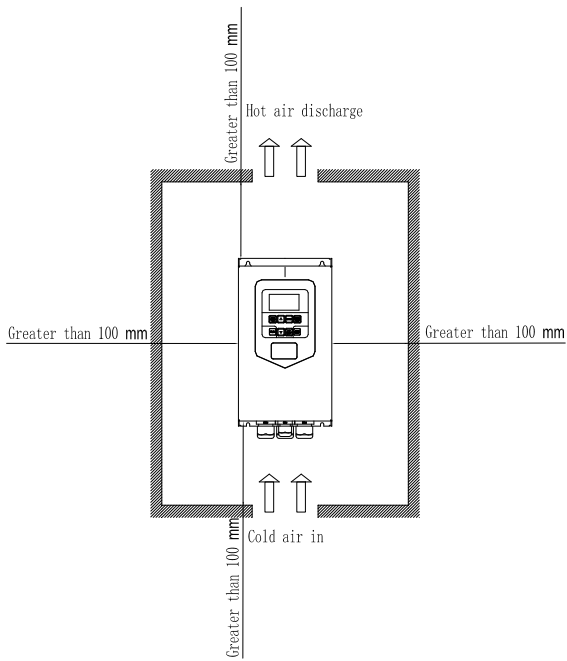

Figure 1-4. Single-Unit Installation Diagram
- 2) Clearance Requirements: Maintain the installation clearance as shown in Figure 1-4 to ensure sufficient airflow for cooling. Additionally, consider the heat dissipation of other components within the cabinet during layout planning.